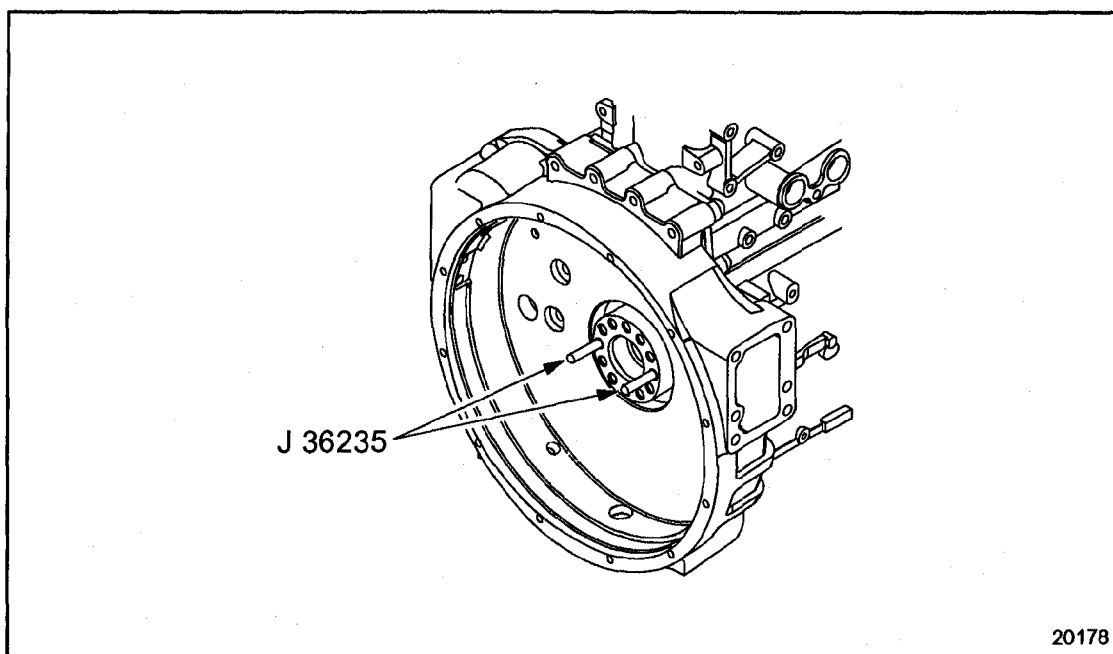

Figure 1-223 Flywheel Guide Studs
6. Install two flywheel guide studs, J 36235, through the flywheel and into the crankshaft at the 3 and 9 o'clock positions. See Figure 1-223.